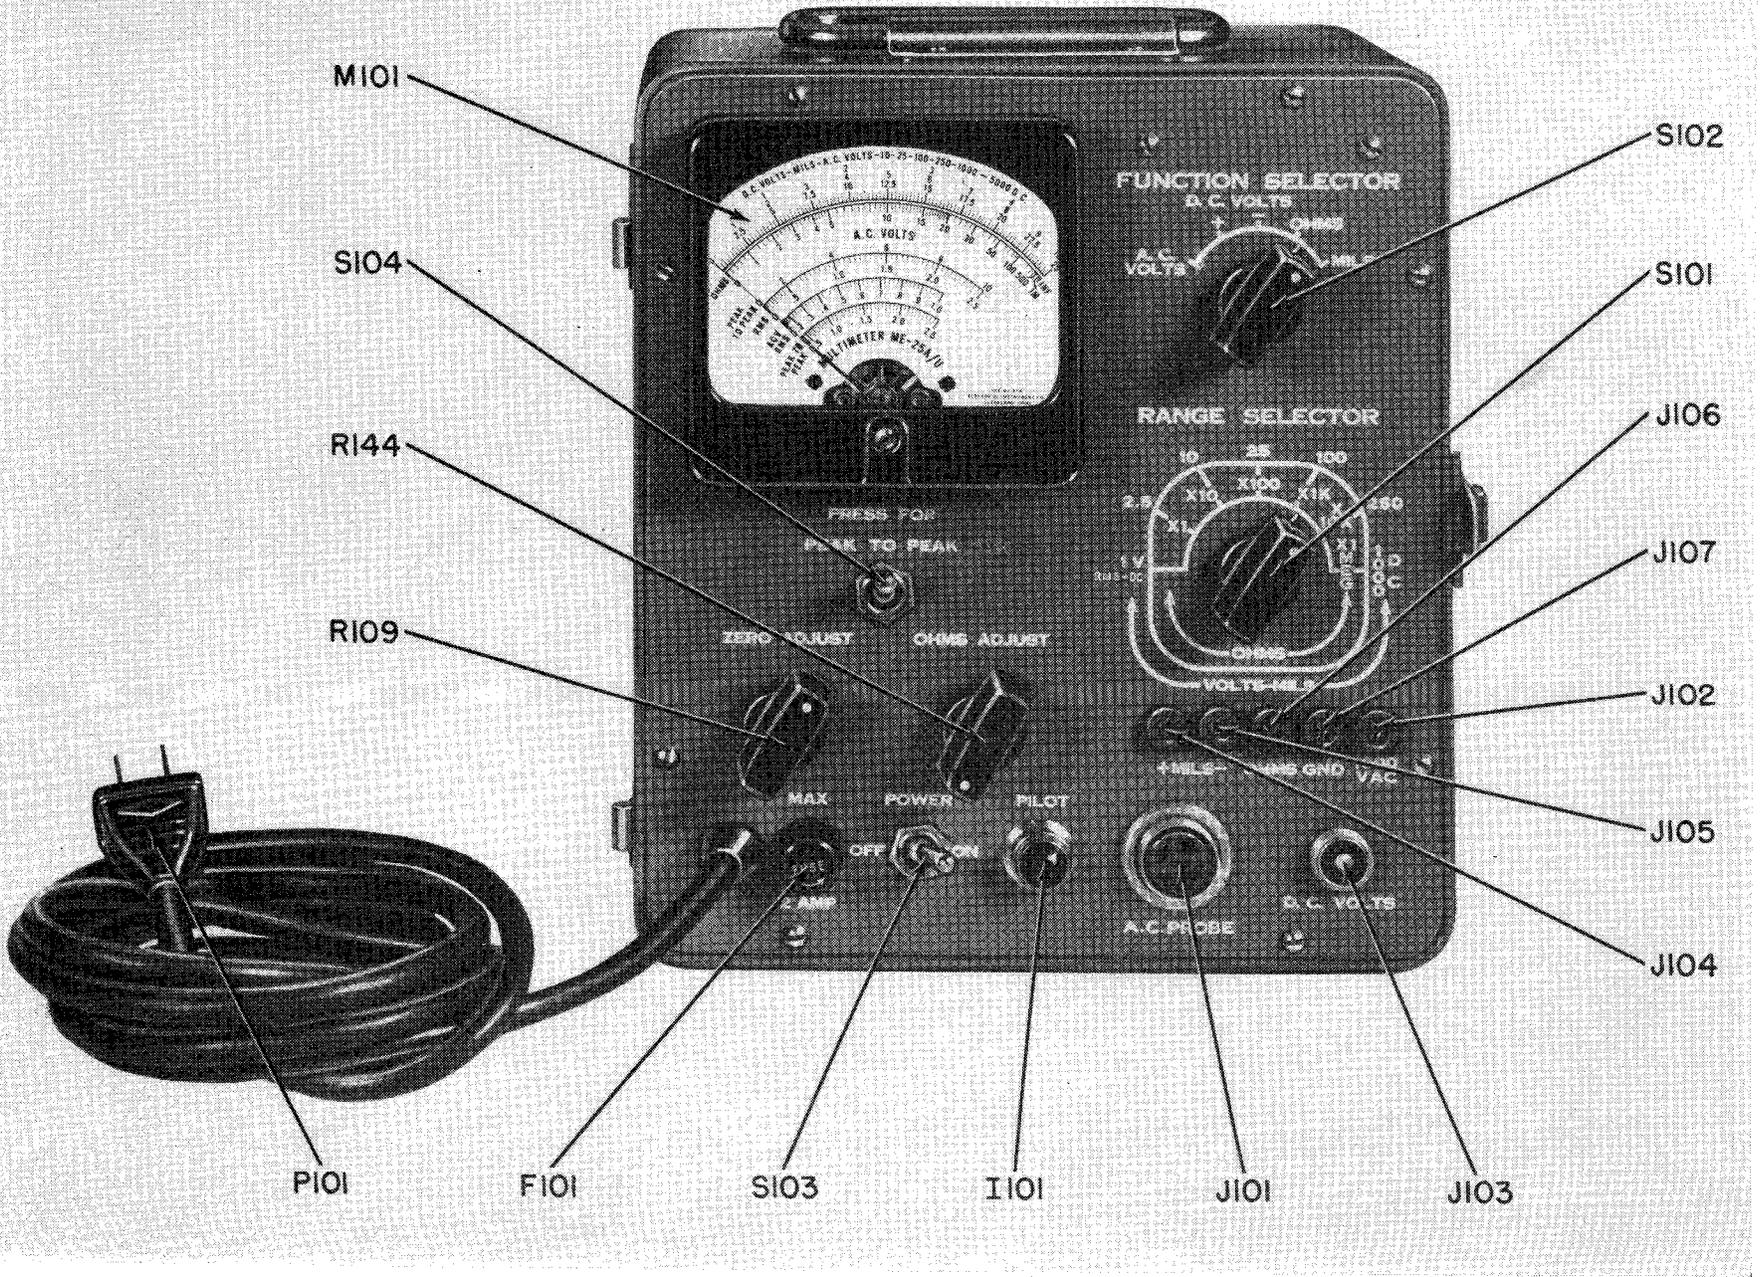

Figure 4-1. Panel Connectors and Controls
*b.* To insure accurate measurements of the unknown, make sure that the meter needle rests at zero on the scale when no power is applied. This adjustment is made mechanically by means of the ZERO ADJUST screw shown on the front of the meter in Figure 4-1. Adjust until the needle rests on the zero of the AC scale.